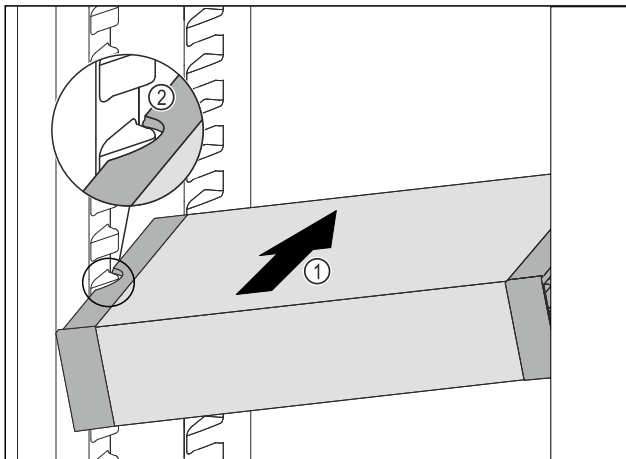

Fig. 88
- ▶ Insert the VarioSafe into the fridge section at an angle Fig. 88 (1) until the recesses in the side Fig. 88 (2) of the VarioSafe are at the level of the support rib in the fridge section.